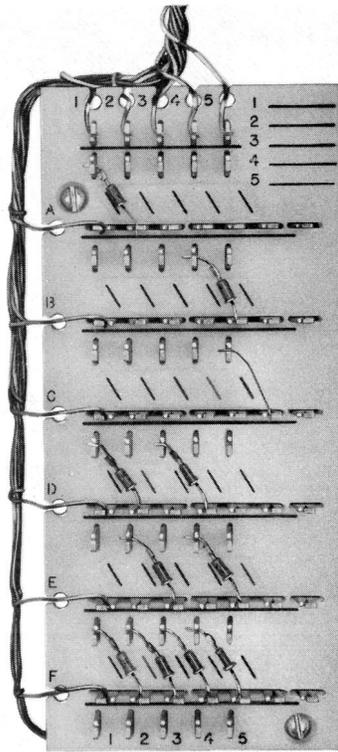

Fig. 1—1A1 Matrix Block—Typical Diode Installation
1.01 This section provides identification, installation, wiring, and maintenance information for the 1A1 Matrix Block when used in key telephone systems KTSs to provide for diode control of station audible signals (Fig. 1).